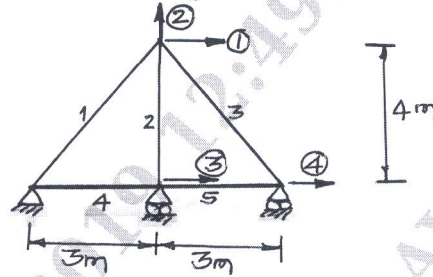

Fig.5
- 5 Synthesize the structure stiffness matrix for the pin jointed plane truss adopting displacement transformation approach. Refer Fig.5. Global coordinated are indicated from ① to ④.